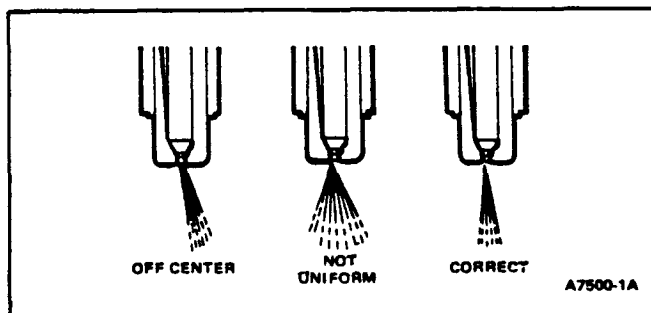

FIG. 30 Nozzle Spray Pattern
4. **Check spray pattern.** Operate test pump in smooth, even strokes and observe pattern of fuel spraying from nozzle tip spray hole. The spray should be finely atomized in an even, straight pattern (Fig. 30). If spray pattern is faulty, disassemble and clean nozzle as described in this Section. Retest nozzle. If still faulty, replace nozzle.